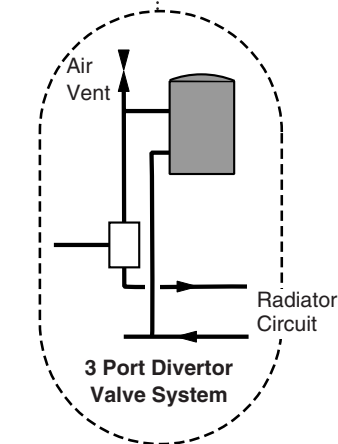

Fig. 4d
- A system using a 3 port diverter valve (Fig. 4d) does not normally require a bypass therefore this system is recommended. The exception to this is where thermostatic radiator valves are used and then a bypass is required.